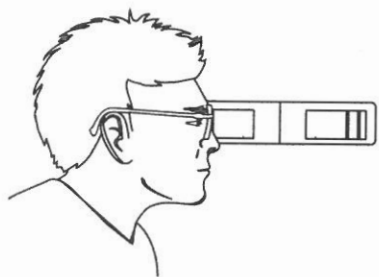

Fig9a
- b.** The optician makes inspection standing by the side of the testee, and the latter is preferably situated against the light. Place the instrument in the horizontal level (see Fig.9a), and target the guide mark at the top of cornea of the testee.